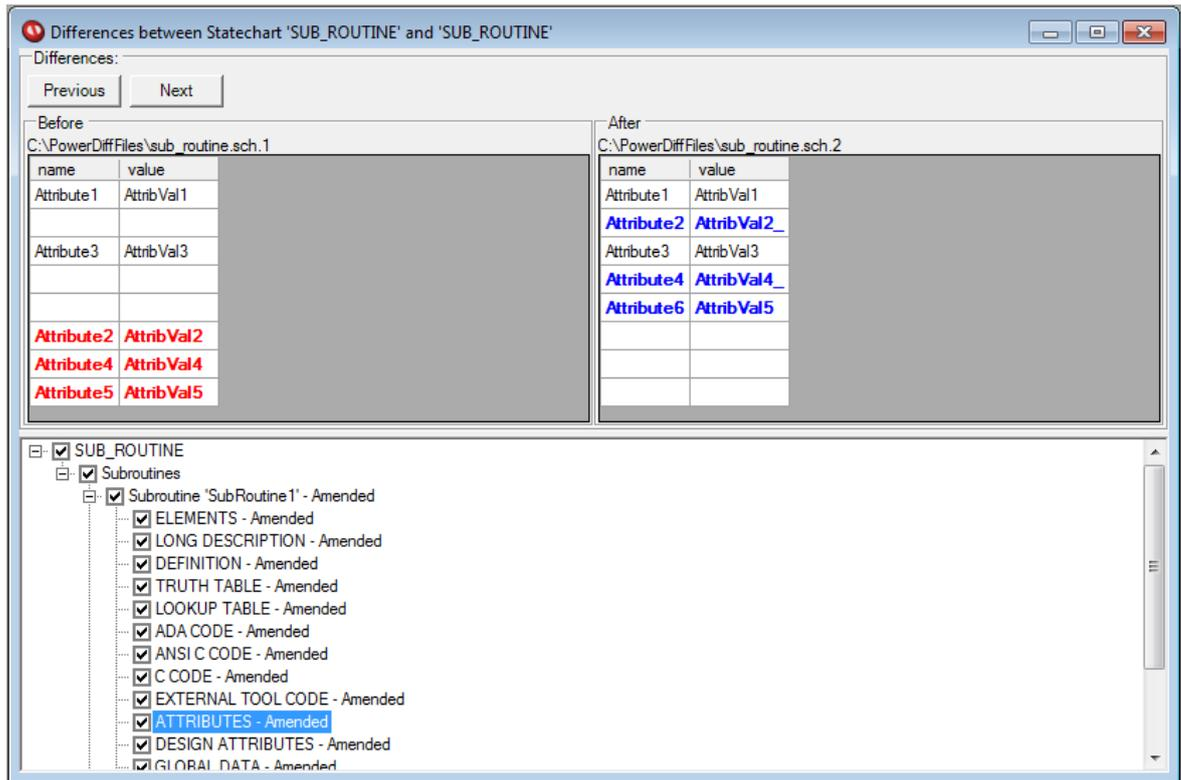

Figure 23: Detail view with tabular differences
- Tabular differences (refer Figure 23)
Figure 23 shows some examples of a removed attribute (Attribute2) and an attribute that was added (Attribute4) as well as unchanged attributes (Attribute3).